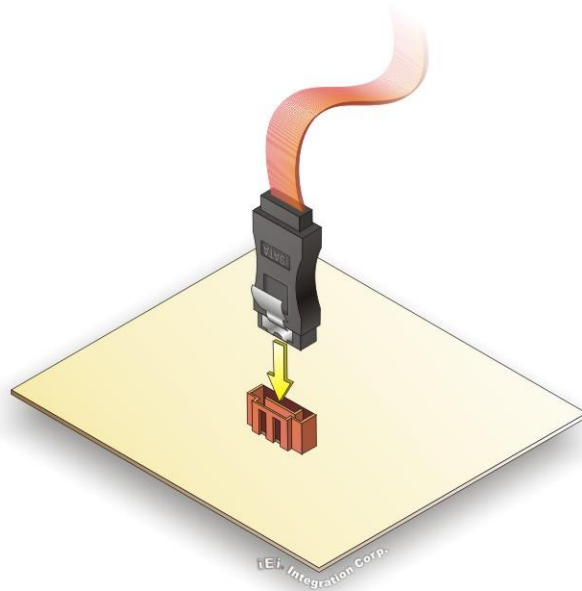

Figure 4-1: SATA Drive Cable Connection
Step 2: **Insert the cable connector.** Insert the cable connector into the on-board SATA drive connector until it clips into place. See **Figure 4-1**.